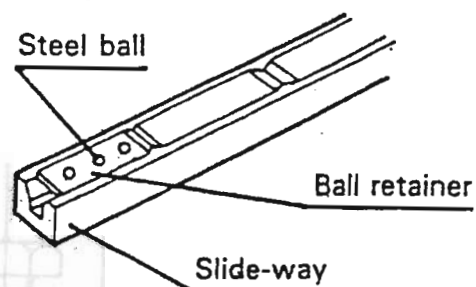

Fig 2
2. Assemble the steel ball and steel ball retainer, then place them on the slideway (Fig 2).